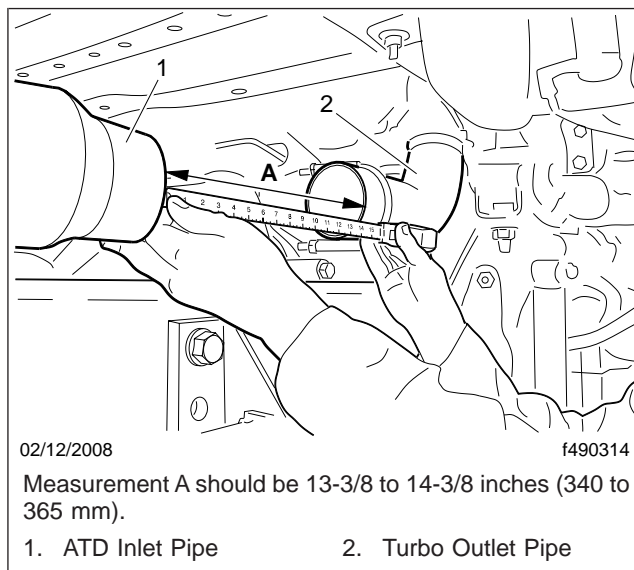

Fig. 4, Measuring Between the Pipes
4. Once the pipes are aligned and concentric, measure the distance between the ATD inlet pipe and turbo outlet pipe. See Fig. 4.